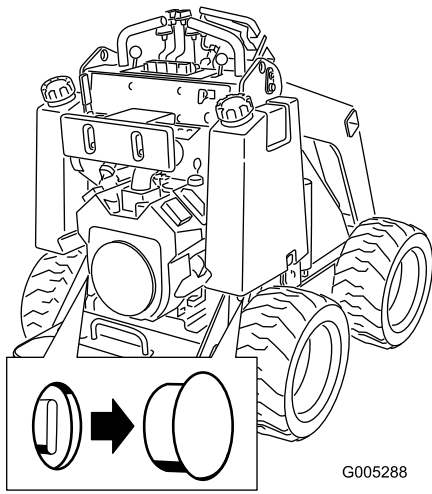

Figure 10
2. Remove the plug covering each tow valve (Figure 10).